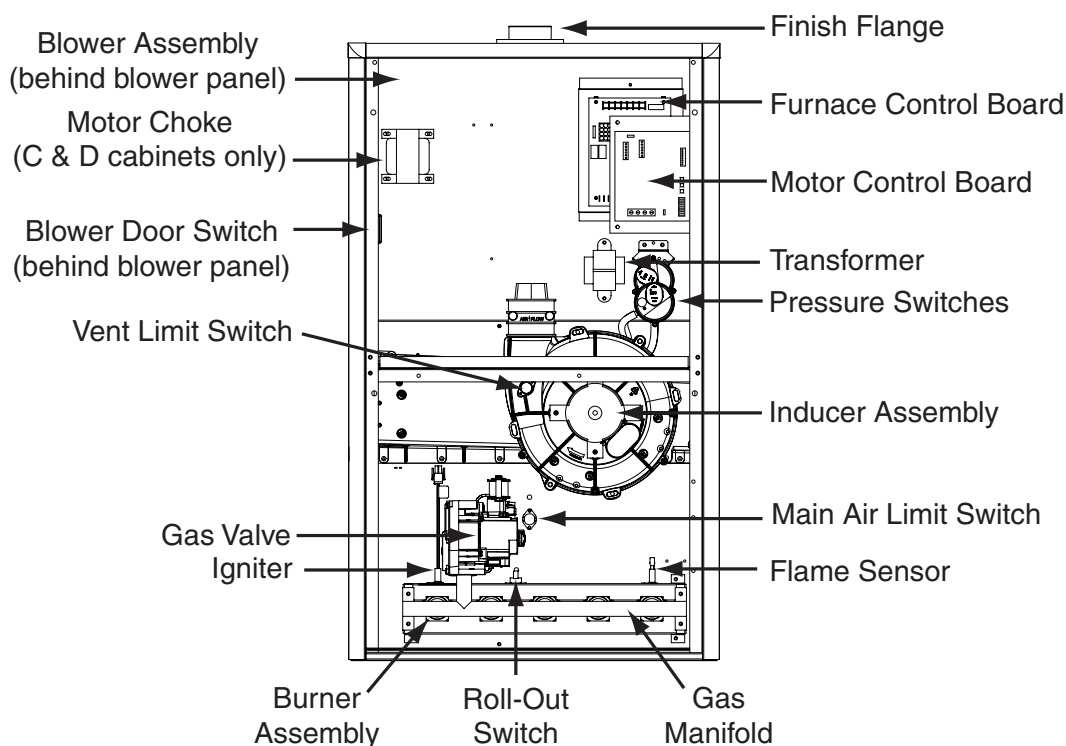

Figure 43. Component Locations
- If the Inducer Blower is operating, and items above have been verified, check the Blower Limit Switch and reset if necessary. See Figure 43 (page 53).
- If the furnace still doesn't operate, check the Flame Roll-out Switches (Figure 43) and reset if necessary.
The descriptions below are various functional components that affect the operation and shutting down of this furnace. Some of these components and their locations are shown in Figure 43 (page 53). If any component of the furnace must be replaced, use only factory authorized replacement parts specified in the Replacement Parts List provided online.